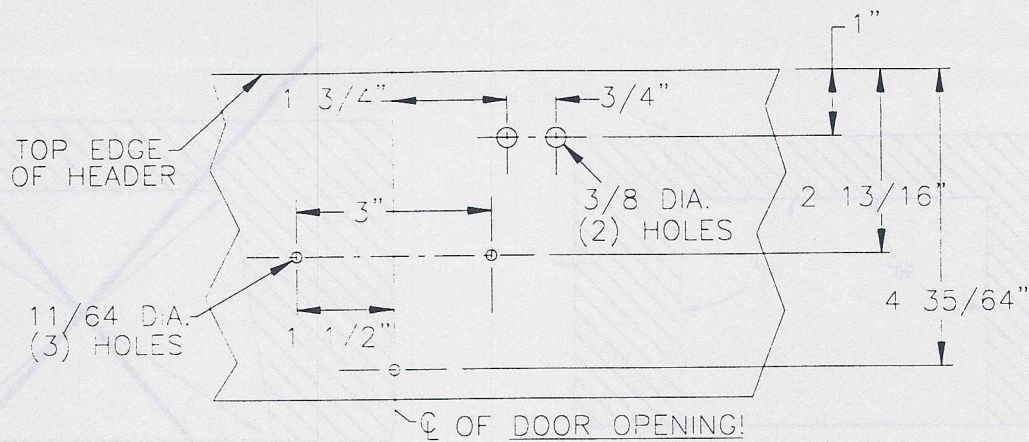

Figure 6: Drilling template for motion detectors. Center over the door opening NOT the center of the header!
3. Mount the Look-See to the bottom of the cover using the four (4) #10-32 screws supplied. All mounting and access holes have been pre-drilled and tapped for this operation. The Look-See can only be mounted in one orientation, due to the electrical access hole being off-center.
4. The headers do not come prepped for the motion detectors. You may wish to prep the holes for the motion detectors on each side while the header is still lying flat on the ground. If so, use the template shown in Figure 6 or the sticker supplied with the motion detector. Be sure to mount the motion detectors in the **center of the door opening**! For a bi-folding *pair* of doors, this will be the center of the header. However, for a *single* bi-folding door, the center of the door opening **will NOT be the center of the header**. If the detectors are mounted in the center of a single Astro-Fold header, they may register the door when it is closing, causing it to cycle open and closed endlessly. The Look-See will *also* be centered in the *opening*, so you may center the motion detectors above the Look-See. Otherwise, you will have to wait until after installing the doors to measure for the clear opening. **Be extremely careful not to damage any wires or other internal components when drilling these holes!** Do not actually mount the Astro-Scans until the header is up and the doors are on (See Section VI-E).